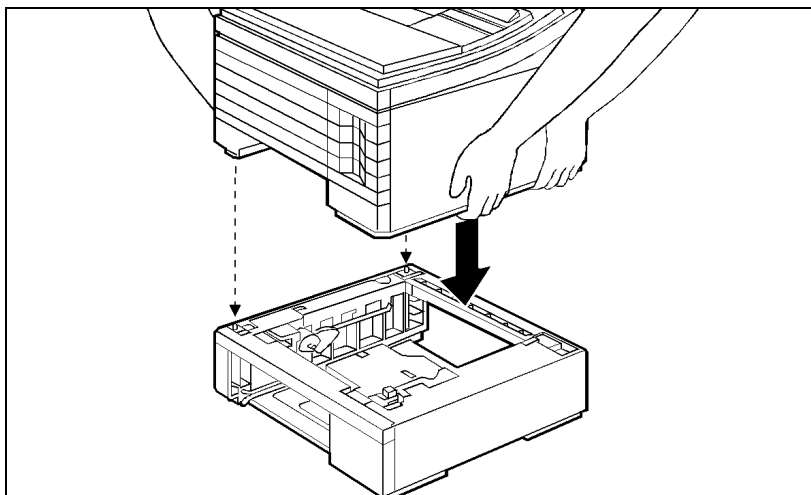

Figure 3-12 Installing the Printer on the Lower Cassette
- 4 Place the printer on top of the Lower Cassette Assembly, as shown in Figure 3-12.